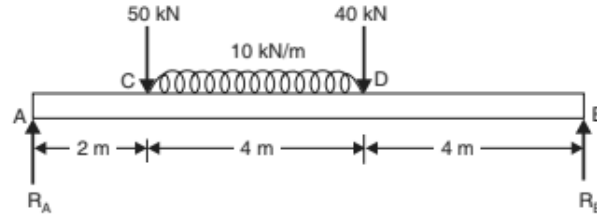

Fig. 5.15
**Problem 5.3.** A simply supported beam of length 10 m, carries the uniformly distributed load and two point loads as shown in Fig. 5.15. Calculate the reactions  $R_A$  and  $R_B$ .